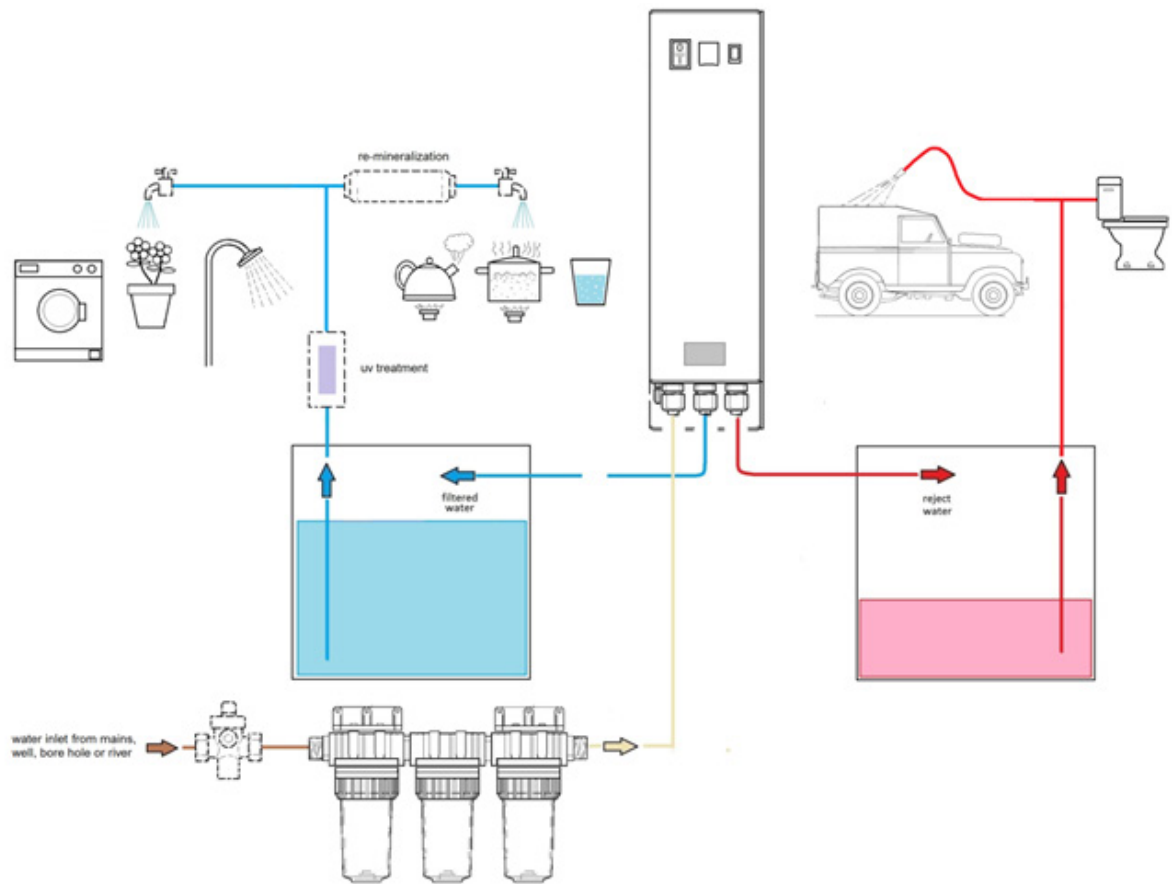

Fig. 10: System overview
2. The rejected water stream, which rinses and flushes the membrane from collected impurities. The rejected water may be collected for further use as shown in figure 10 overview or needs to be discarded.